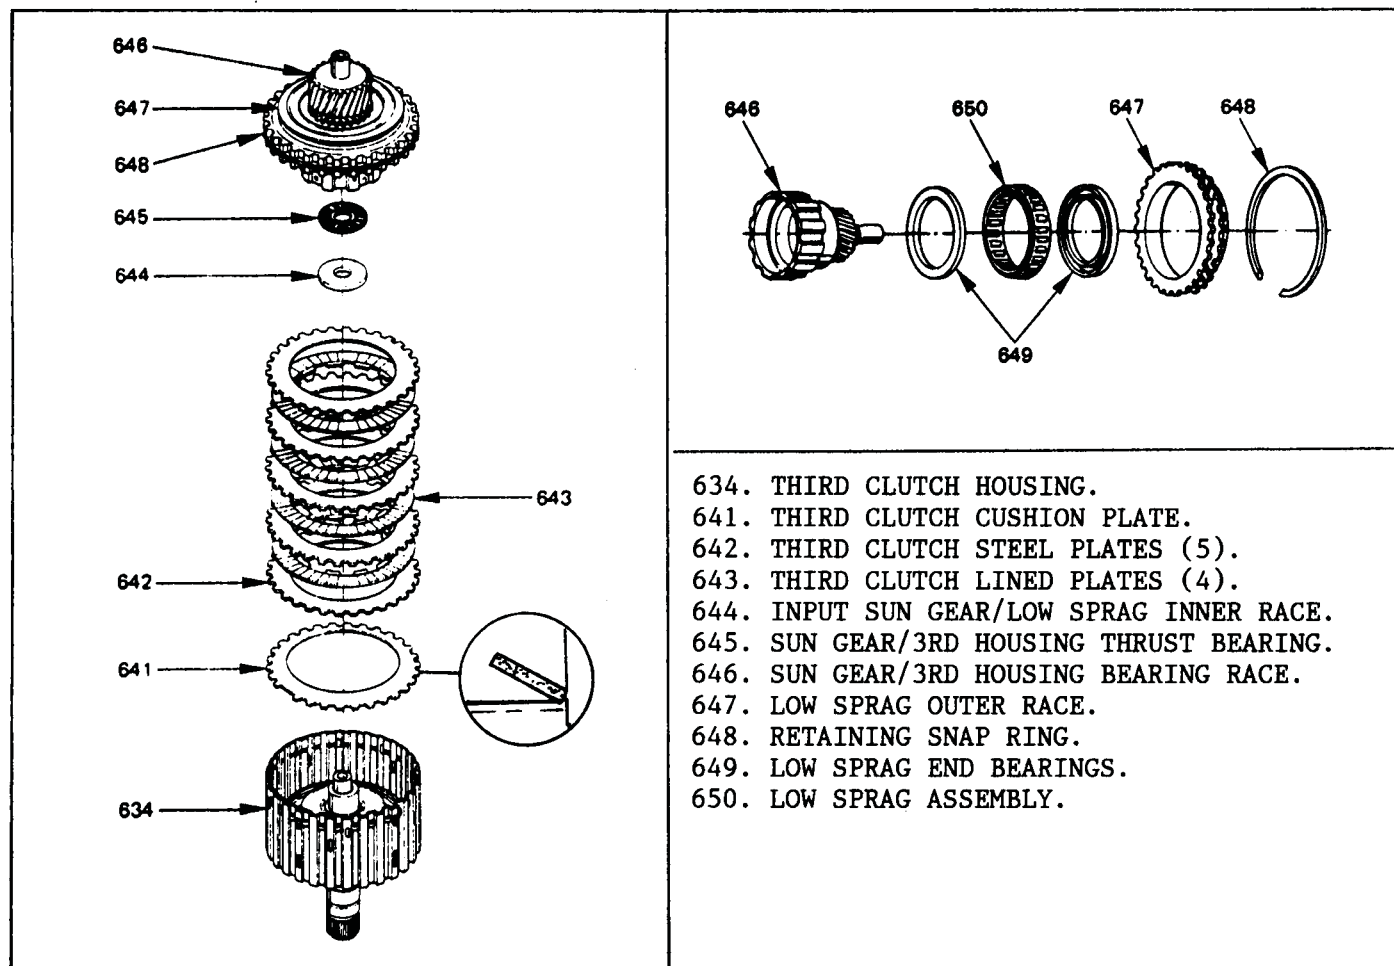

Figure 73
8. The remainder of the 3rd clutch housing disassembly is routine, as shown in Figure 73.
12. Install the 3rd clutch cushion spring with bevel facing down, as shown in inset in Figure 73.
13. Install 3rd clutch plates into the 3rd clutch housing, beginning with a steel plate first and alternate with a lined plate (See Figure 73).
14. This unit requires 5 steel plates and 4 lined plates, stacked as shown in Figure 73.
15. Install thrust bearing race and the thrust bearing, and retain with some petrolatum (See Figure 73).
16. Install end bearings and sprag assembly onto the sun gear (See Figure 73).